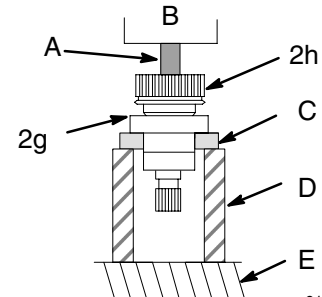

Fig. 14
4. **Using a hydraulic press**, place pieces of steel bar stock on the inner race of the large bearing (2g) and press the shaft through the hub and bearing. See Fig. 14.